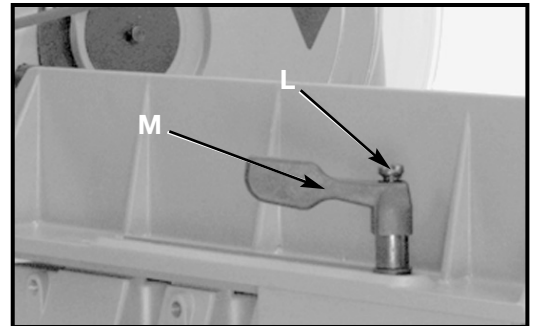

Fig. 7J
- Position lock handle (M) Fig. 7J, on stud and replace screw and spring (L) that were removed in **STEP 7**. **NOTE:** Lock handle (M) is spring-loaded and can be repositioned by lifting up on handle.